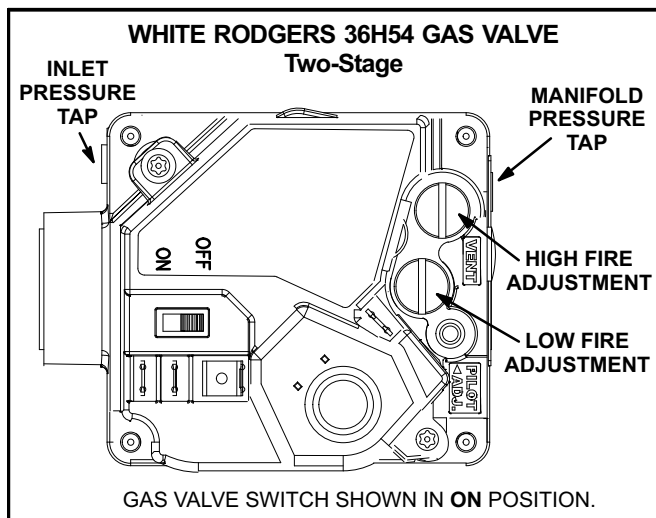
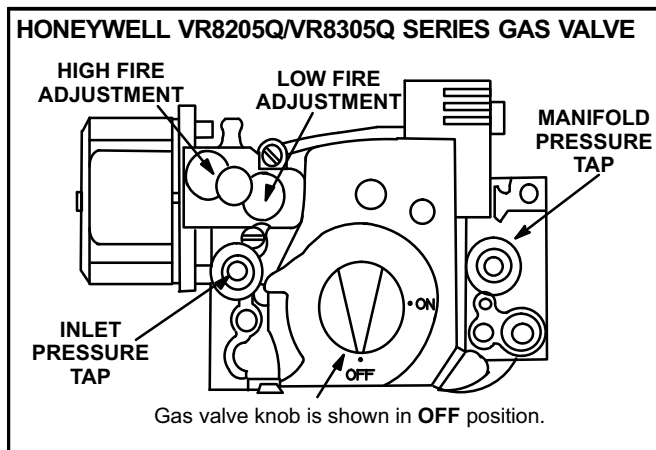

FIGURE 26
FIGURE 27
Gas Valve Operation for Honeywell VR8205Q / VR8305Q and White Rodgers 36H54 (figure 26 and 27)
- 5- Turn gas valve switch to **OFF**. See figure 26. On Honeywell VR8305Q gas valves, turn the knob on the gas valve clockwise  to "**OFF**". Do not force. See figure 27.
- 6- Wait five (5) minutes to clear out any gas. If you then smell gas, **STOP!** Immediately call your gas supplier from a neighbor's phone. Follow the gas supplier's instructions. If you do not smell gas, go to the next step.
- 7- Turn gas valve switch to **ON**. See figure 26. On Honeywell VR8305Q gas valves, turn the knob on the gas valve counterclockwise  to "**ON**". Do not force. See figure 27.